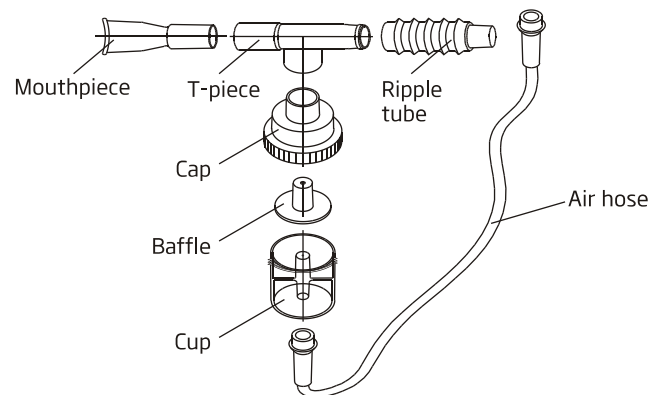

Figure10
- Pull out the air hose, pull the mouthpiece, downward pull the nebulizing cup's cap, empty remained medicinal liquid in the nebulizing cup, then wash the air hose, mouthpiece, nebulizing cup's cap, nebulizing baffle, nebulizing cup, ripple tube, T-piece, etc , with pure water or immerge them in warm water for about 15 minutes(Figure 10). In order to wash them properly, you may add some vinegar in water.